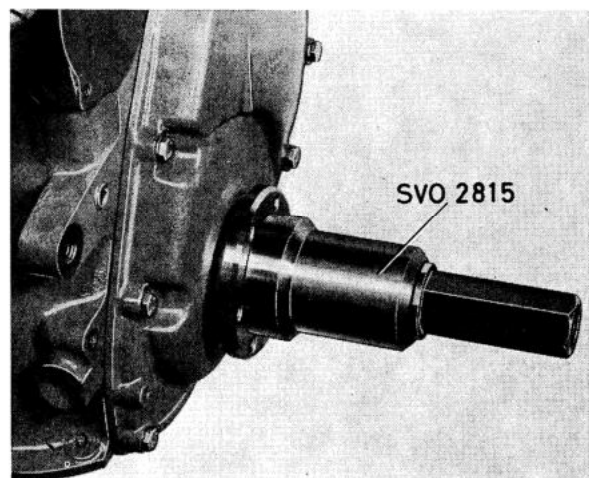

Fig. 2-33. Fitting polygon hub
5. Fit the polygon hub with tool SVO 2815, see Fig. 2-33. Before fitting, the sliding surfaces of the polygon hub should be greased. **Note the marking**, that is, the center punch marks on the crankshaft end and polygon hub. Fit the center bolt and tighten it to a torque of 7–8 kpm (50–57 lb.ft.).